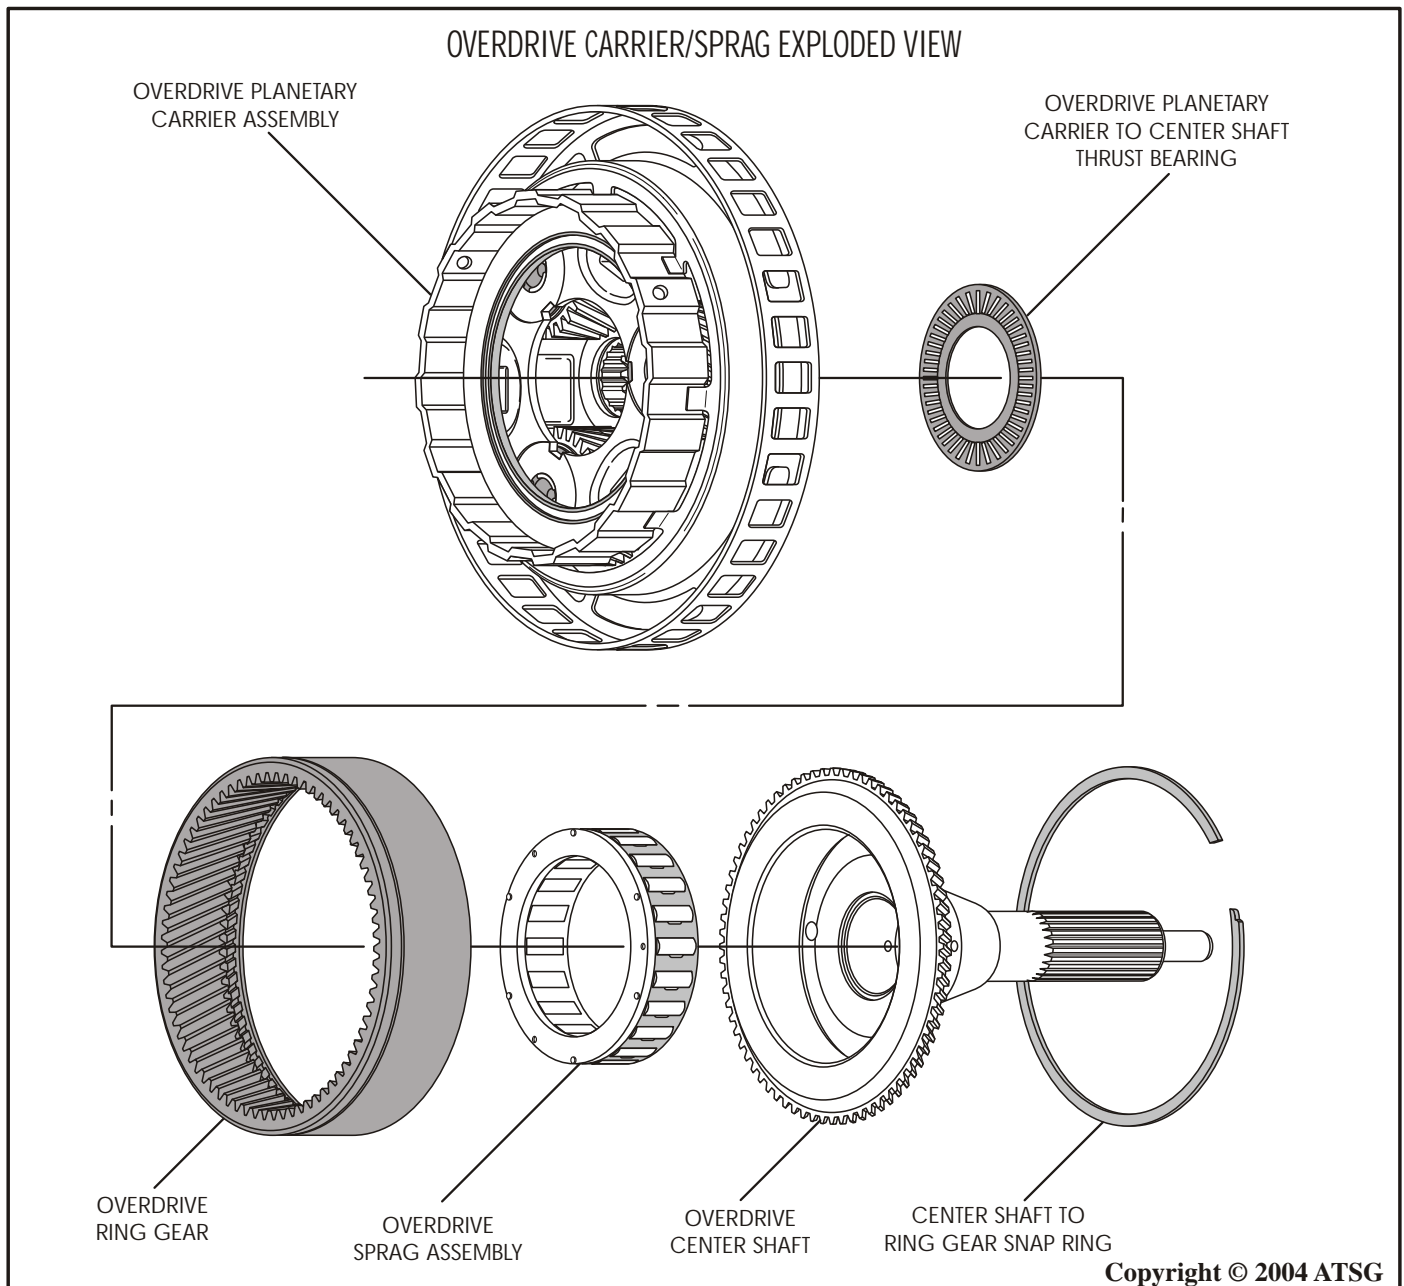

Figure 73
1. Disassemble the overdrive carrier from center shaft using Figure 73 as a guide.
2. Inspect all of the overdrive carrier parts shown in Figure 73 for any wear and/or damage.